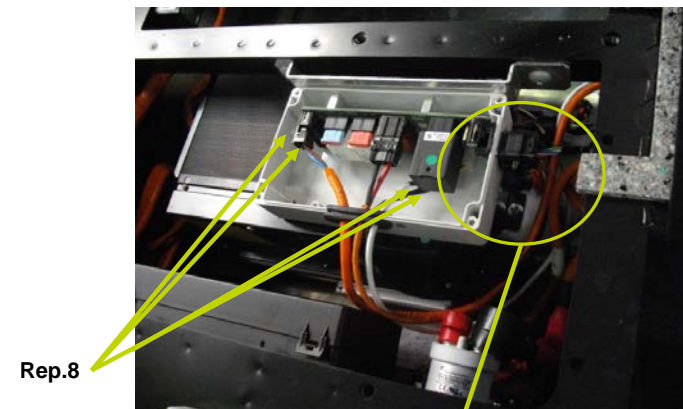

Fig.13
- Connect heating blanket(s) **(Rep 8)(Fig.13)**, white and orange wires.